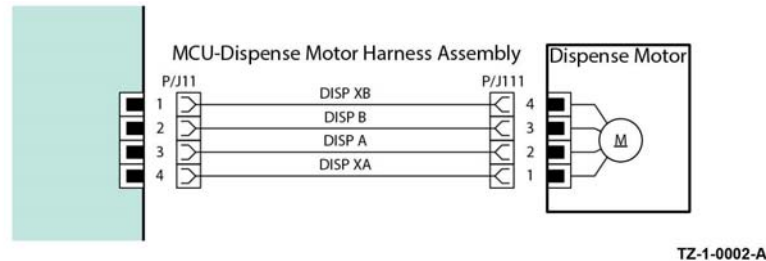

Figure 1 Example motor wiring diagram
- Refer to Figure 1. Disconnect PJ111. Check the +24V supply and the phase pulses to GND when the component control code for the motor is entered. If the supply and pulses are present, install a new motor.